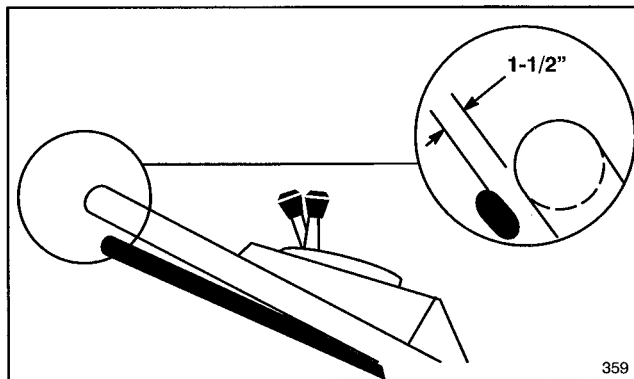

Figure 20
2. **CHECK ADJUSTMENT**—Adjustment is correct when rear wheels stop turning and control bar is about 1-1/2 inches from handle (Fig. 20).